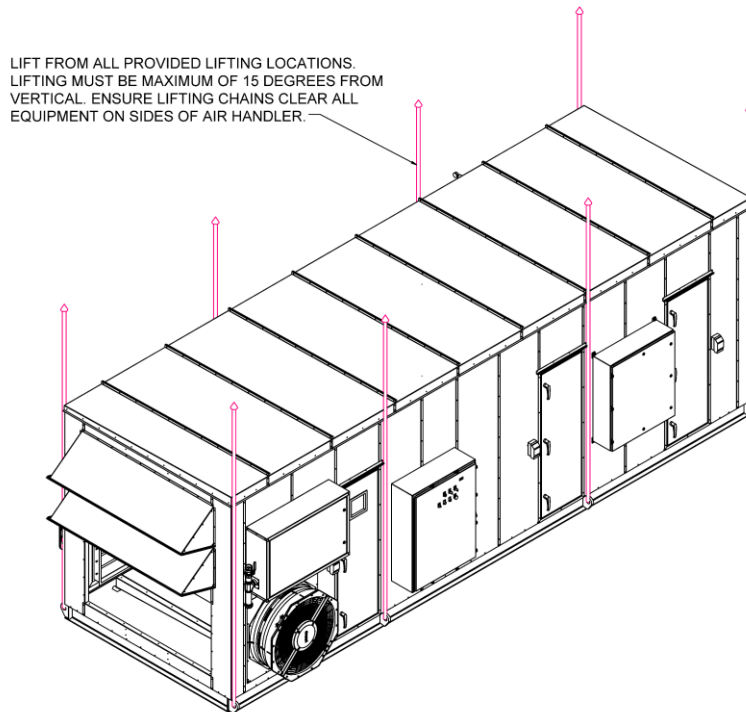

Figure 1.
- 2.2.6. When using spreader bars for lifting Colmac A+H Hygienic Air Units, ensure that the side lifting angle does not exceed 10-degrees from vertical. See Figure 1. below.